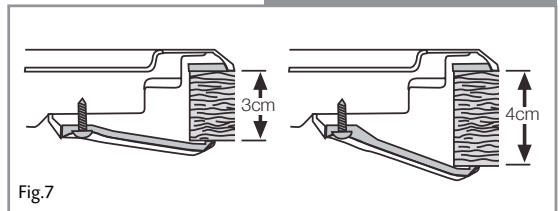

Fig.7
3. Secure the hob to the worktop using the fixing brackets and screws supplied, as shown in the following diagram (Fig 7). Remove any excess sealant after tightening the brackets.